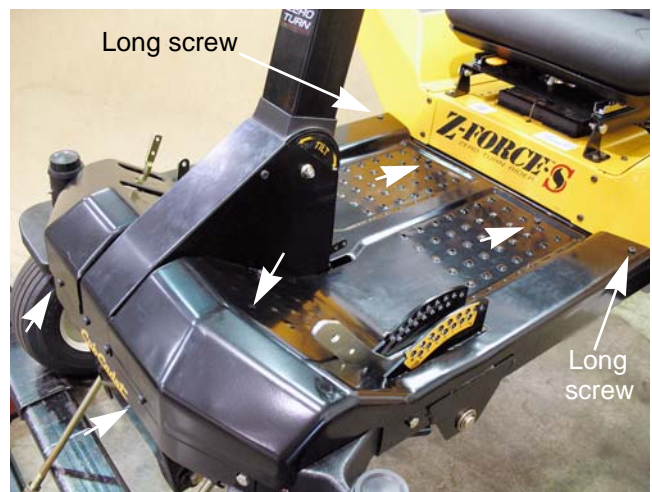

Figure 4.4
10. Remove the eight screws that hold the floor pan to the frame using a T-30 torx driver. See Figure 4.4.